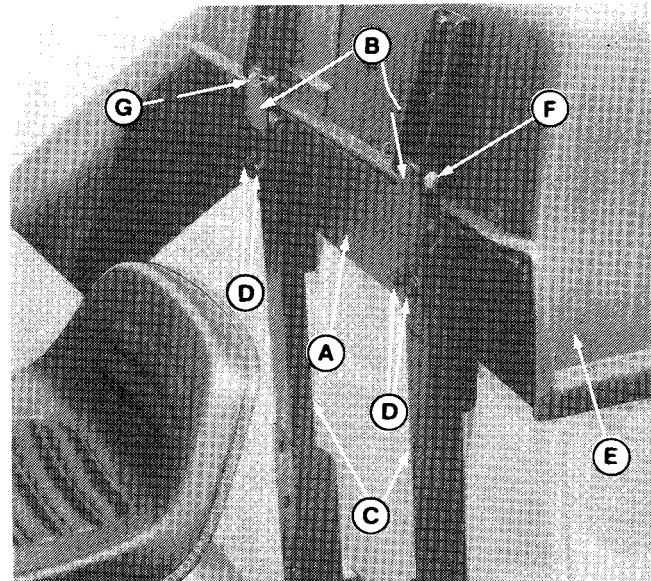

Figure 28. (Shown With Cover Installed)
3. Attach the support plate (A, figure 28) and hinges (B) to the two upper braces (C). Insert four 5/16-18 x 7/8" capscrews from rear, then install 3/8 (ID) x 7/8 (OD) washers, lockwashers and nuts (D) (unless already assembled).
9. Place cover (E, figure 28) onto the support plate and align the hinges. Insert two pins (F) and install clips (B). The front edge of the cover must seal against the support plate. Loosen nuts (D) to re-position if necessary, then tighten.